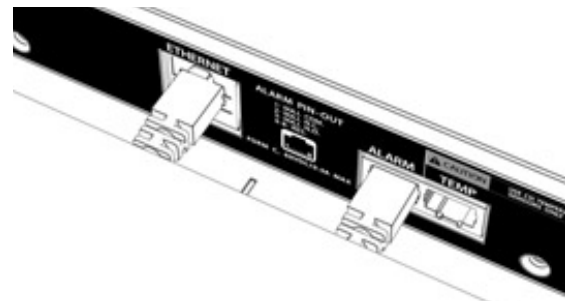

Figure 7. Alarm/Ethernet
Step 1. Plug in a UTP cable with a TIA/EIA T568B termination into the alarm jack (see Figure 7). Refer to Table 4 below for termination pinout information.